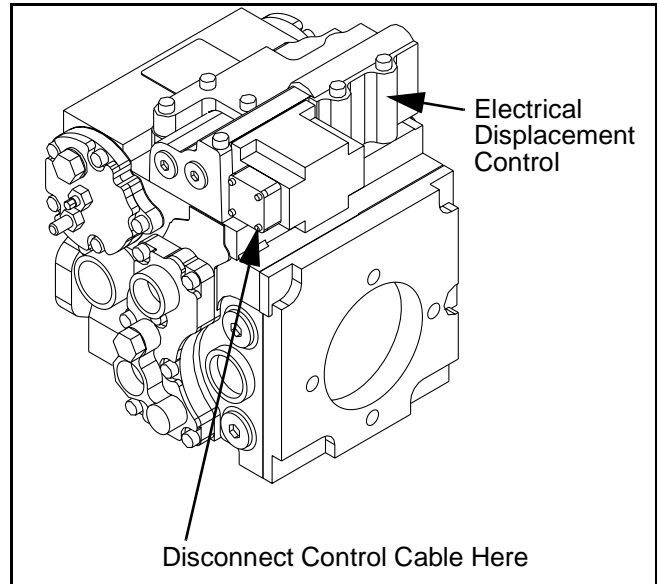

Figure 5 - 15 Electrical Displacement Control
- 10) Loosen control neutral adjustment lock nut with 17mm wrench and slowly rotate the control neutral adjustment screw clockwise, with 5mm internal hex wrench, until the pressure is equal on both gages. (Figure 5 - 11)